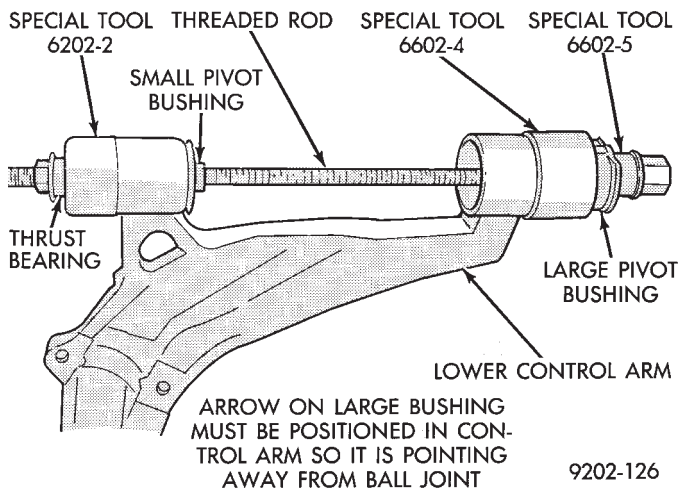
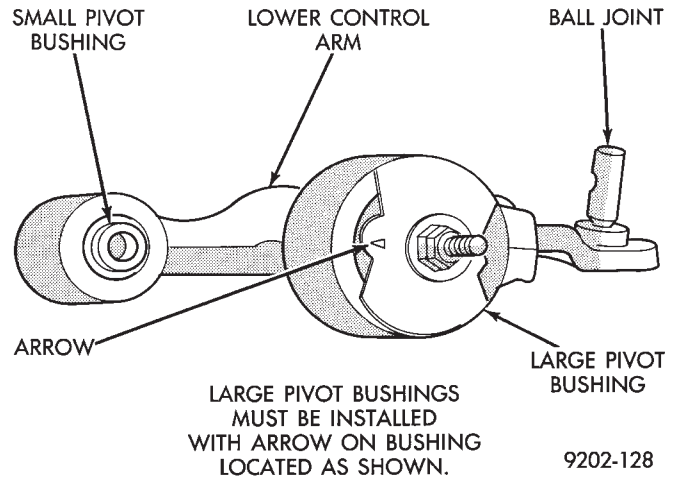

Fig. 10 Bushing And Tool Position For Installation In Control Arm
Fig. 11 Positioning Control Arm Bushing
(3) Install the pieces assembled in step 2 through the hole in the small pivot bushing and the large pivot bushing hole in the lower control arm. At the large pivot bushing hole in the lower control arm assemble the following special tool pieces. Large Bushing Sizer, Special Tool 6602-4, large lower control arm pivot bushing, large bushing disc Special Tool 6602-5, thrust bearing, washer and nut (Fig. 10). Lubricate the installer cone and new bushing using Mopar® Silicone Spray Lube or equivalent.
(4) Hold the threaded rod stationary and turn the long nut until the bushing is fully installed into the
(5) If the position of the large lower control arm pivot bushing (Fig. 11) moved during bushing installation. Install a nut and bolt through the bushing sleeve and tighten it down (Fig. 11). Using a wrench rotate the bolt until the bushing is in the correct position (Fig. 10)